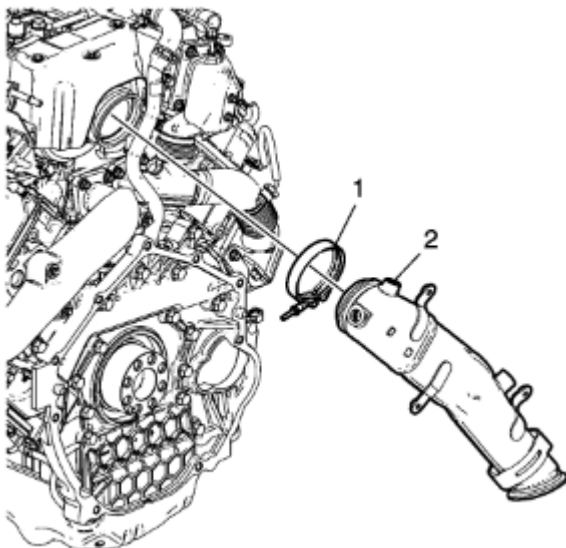

Fig. 130: Turbocharger exhaust adapter installation
- a. Install the turbocharger exhaust adapter and exhaust adapter clamp as shown in figure 130. Tighten the clamp to 89 in-lb. Connect the dosing injector fitting and torque the fitting to 33 ft-lb.